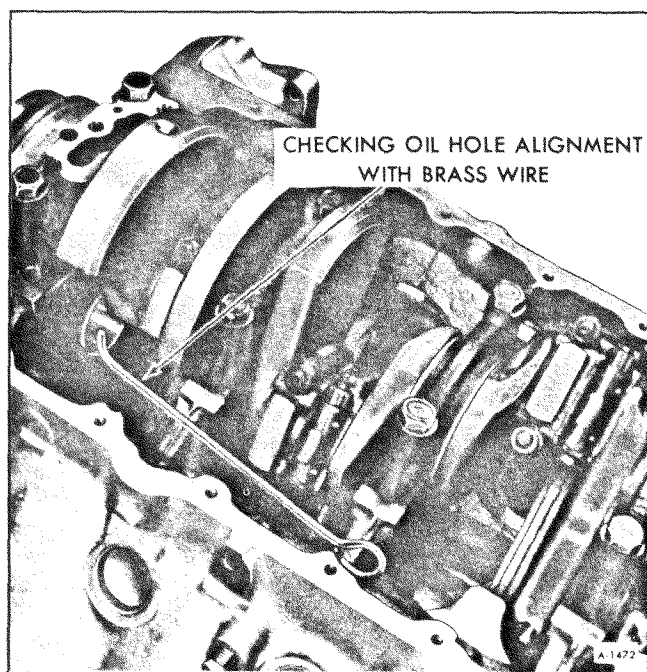

Figure 61—Checking Oil Hole Alignment
2. Drive No. 5 camshaft bearing into place and check oil hole alignment as shown in Figure 61.